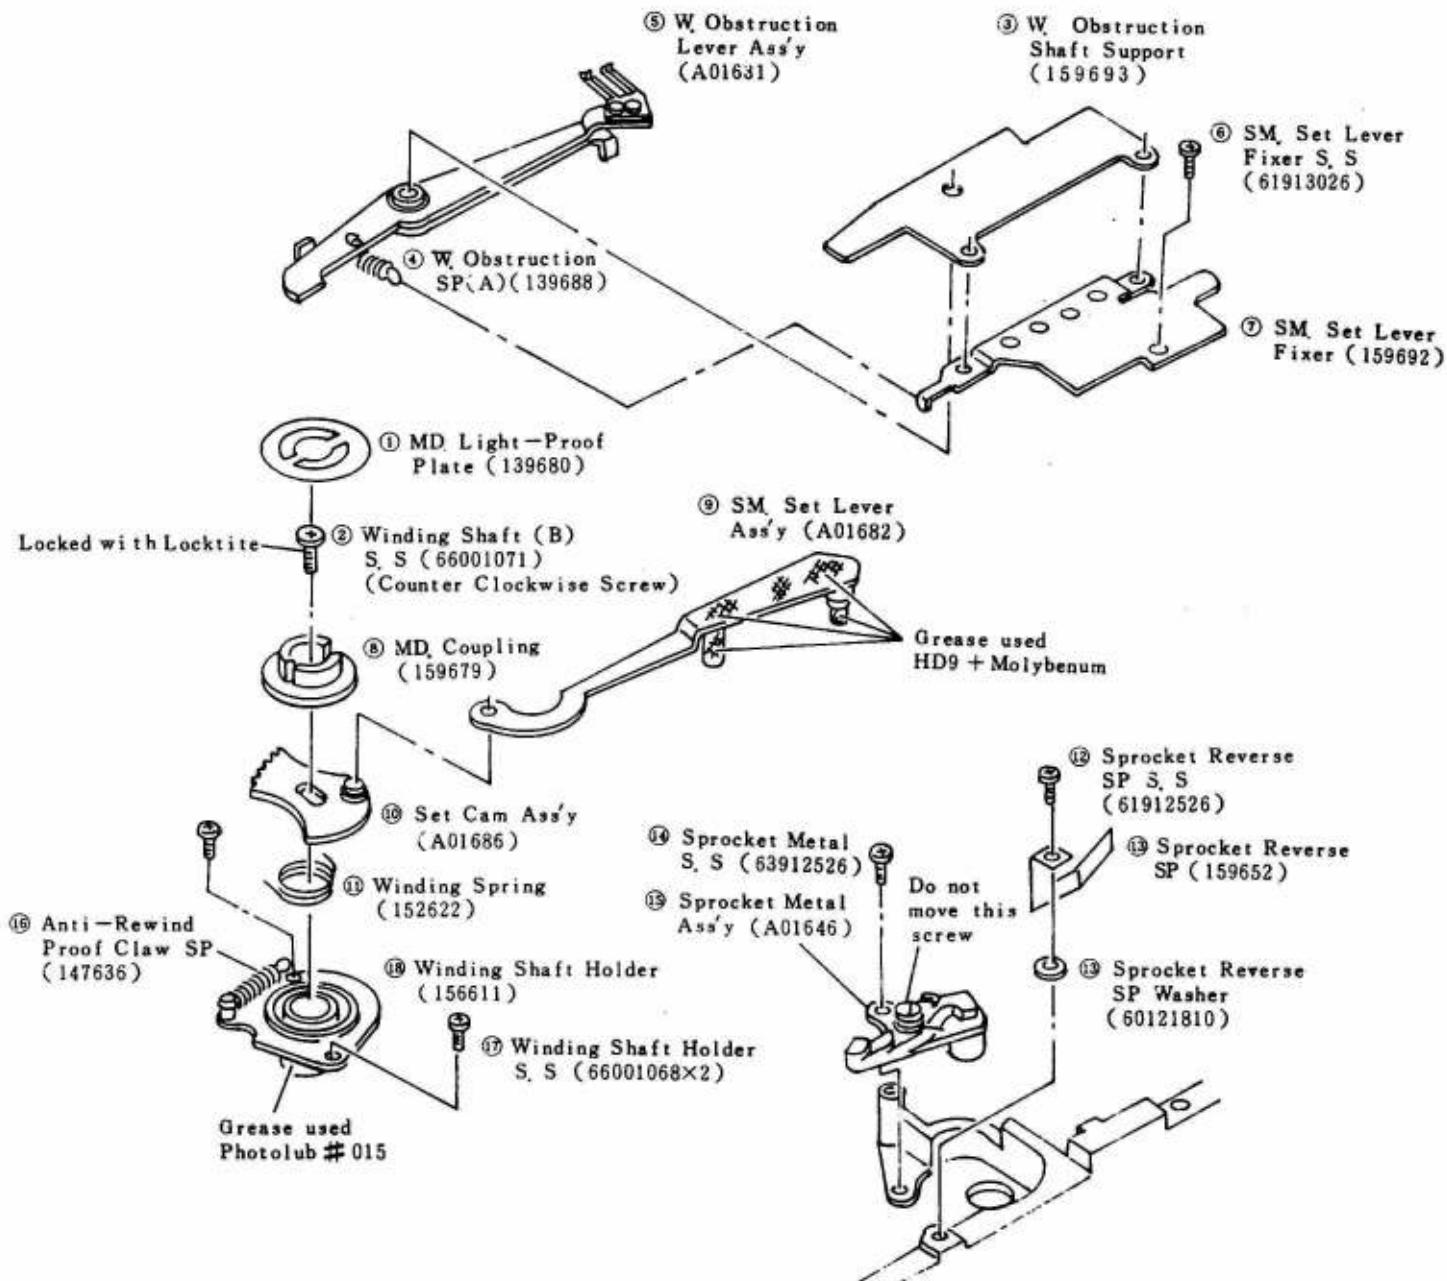

Fig 25
- a) Remove the respective parts ① ~ ⑯ shown in (Fig 25) in numerical order.
- m) Set the SM. Set Lever Ass'y (A01682), MD. Coupling (159679) and tighten the Winding Shaft (B) Set Screw (66001071) (counter clockwise screw).
- See (Fig 25).